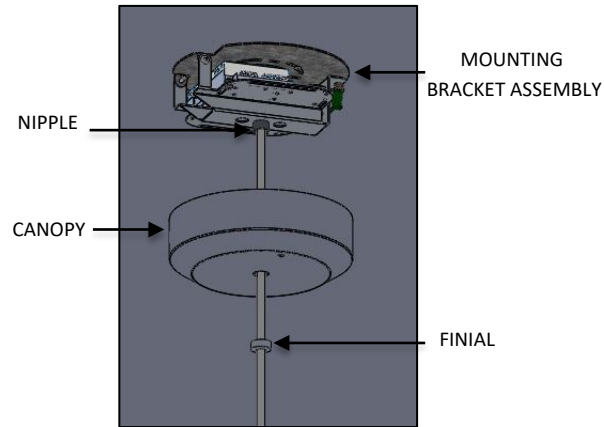

FIG. 18 – FINIAL INSTALLATION
9. Raise CANOPY and secure to ceiling by threading the FINIAL to the NIPPLE (available in MOUNTING BRACKET ASSEMBLY) as shown below in FIG. 18.